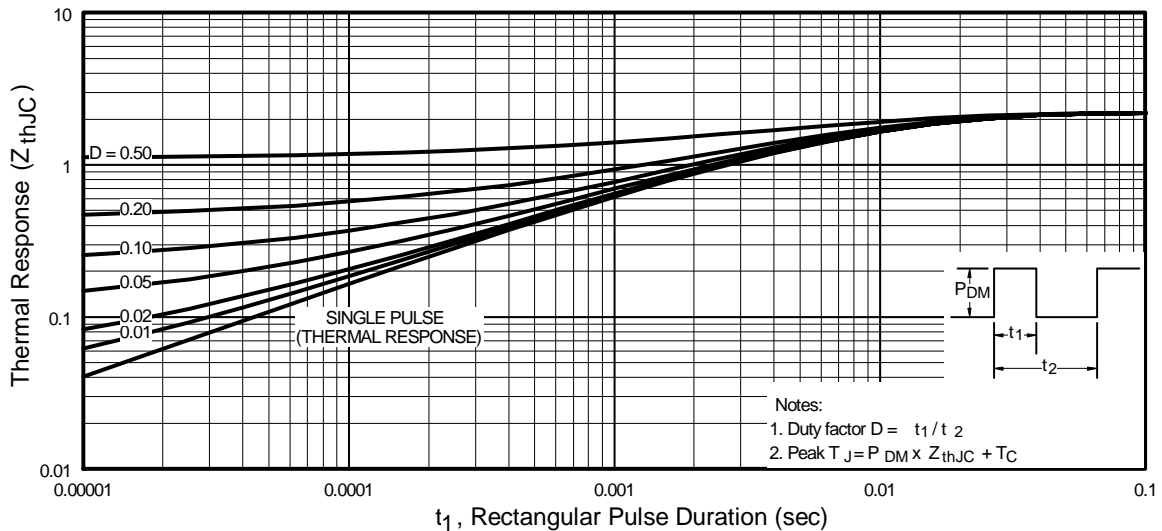

Fig 11. Maximum Effective Transient Thermal Impedance, Junction-to-Case
- ① Repetitive rating; pulse width limited by max. junction temperature. (See fig. 11)
- ② V_{DD} = 25V, starting T_J = 25°C, L = 610μH